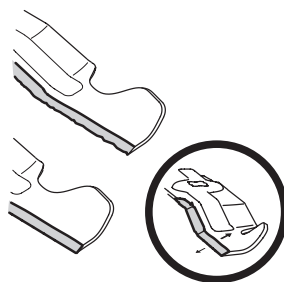

Figure 26
- To properly sharpen the cutting blade, remove equal amounts of metal from both ends of the blade along the cutting edges, parallel to the trailing edge, at a 25° to 30° angle. Always grind each cutting blade edge equally to maintain proper blade balance. See Figure 26.